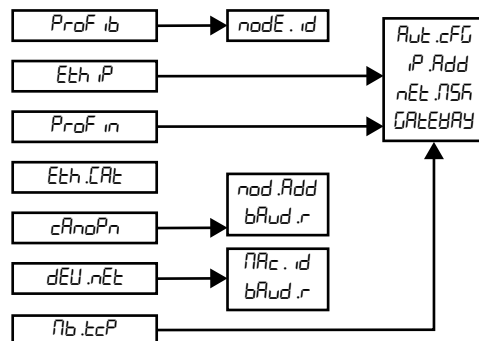

Figure 2-4. Fieldbus Parameters
- Once the type of fieldbus is selected, enter the appropriate parameters (see Figure 2-4):